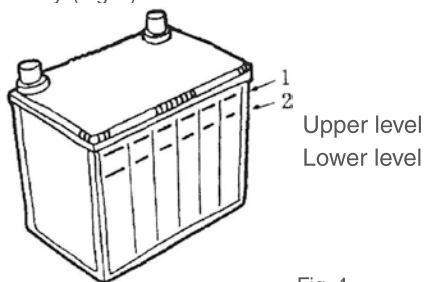

Fig. 4
3.4.2 Check each cell of the battery to see if the electrolyte level of the battery is between the upper and lower level marked on the battery. (Fig. 4).